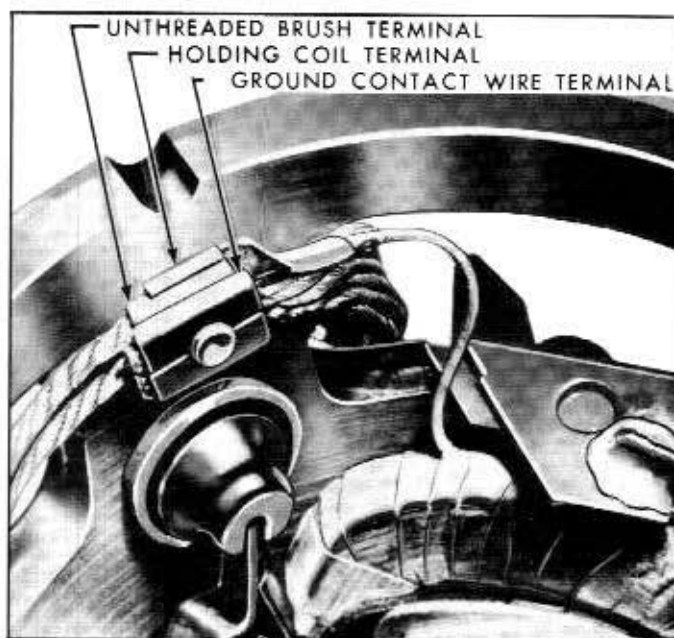

Fig. 9-38—Upper Ground Brush Installation—(60C-7696)
13. To install the upper ground brush, place the brush terminal screw in the frame. Place the unthreaded new brush terminal and the holding coil terminal on the screw. Install the ground contact wire terminal to the screw and tighten securely. See figure 9-38.